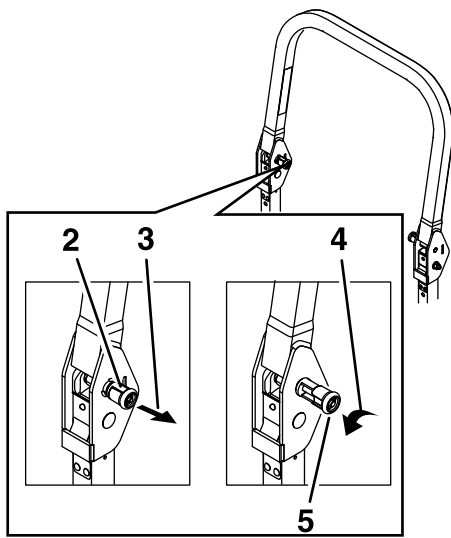

Figure 8
2. Pull both knobs out and rotate them 90 degrees so they are not engaged (Figure 8).
3. Lower the roll bar to the down position (Figure 8).